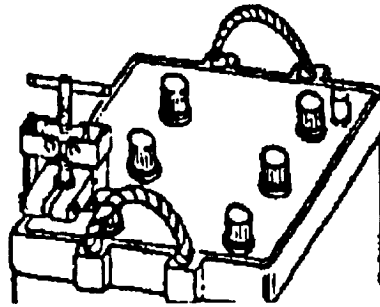

Figure 3-9
- (2) Remove negative (-) terminal clamp from terminal post using terminal puller (See Figure 3-9), install battery cable lead identification label at this time if label is missing.